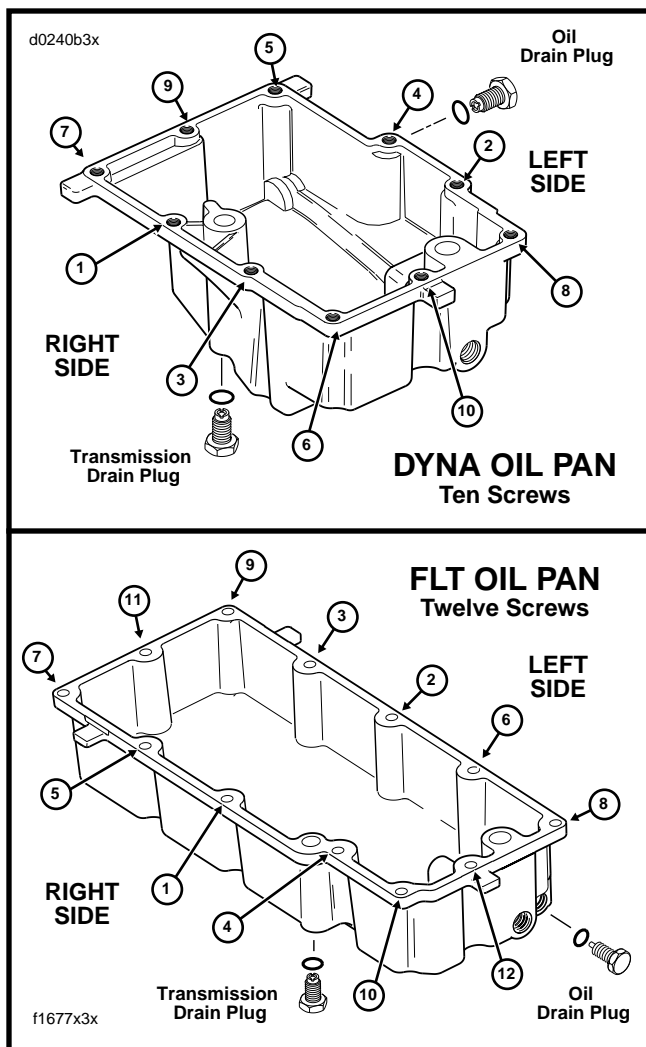

Figure 1. Oil Pan Torque Sequence
- a. Locate transmission drain plug on right side of the oil pan. See Figure 1. Remove the plug and drain the transmission lubricant into a suitable container.
- b. Following the pattern shown in Figure 1, alternately loosen and then remove the allen head socket screws to release the oil pan from the transmission housing.
- e. Alternately tighten the oil pan screws to 7-9 ft-lbs (9-12 Nm) following the pattern shown in Figure 1.